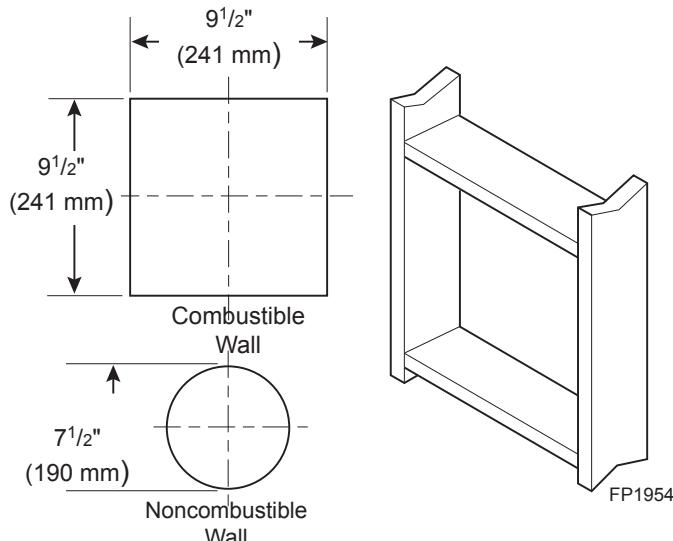

Figure 26 -
Combustible Exterior Walls: Cut a 9½"H x 9½"W square hole through the exterior wall frame. *Figure 26*
- The center of the hole should line up with the center line of the horizontal rigid vent pipe end. Allow 1/4" minimum rise per foot. *Figure 26*